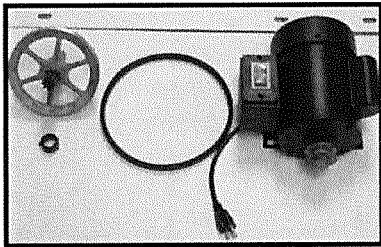

Fig.14: Parts required for mounting motor and drive assembly.
1. Sort through all the components and set aside pieces required for mounting the motor and drive assembly. (Fig.14)